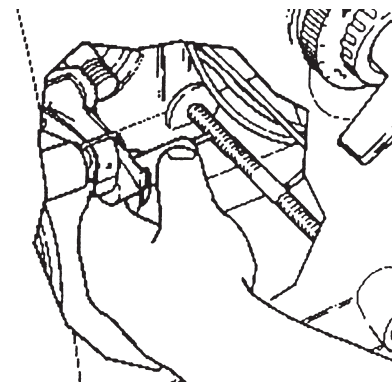

Figure 115
- To lubricate the Headstock Lock, loosen the Lock as far as possible. Then reach inside the Access Hole opening and apply a small amount of powdered graphite to the points where the Threaded Rod screws into the Wedge Locks, as illustrated in Figure 115.